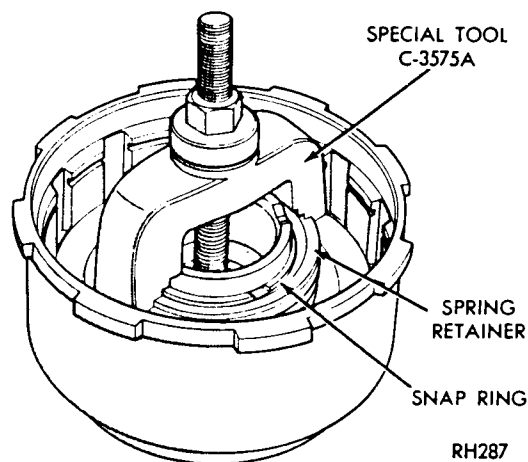

Fig. 19—Front Clutch Spring Retainer Snap Ring (A-904T and A-999)
(1) Remove large waved snap ring that secures pressure plate in the clutch piston retainer. Lift pressure plate and clutch plates out of the retainer.
(2) Install compressor, Tool C-3575-A, over piston spring retainer (Fig. 19). Compress spring and remove snap ring, then slowly release tool until spring retainer is free of the hub. Remove tool, retainer, and spring.
(3) Invert clutch retainer assembly and bump it on a wooden block to remove the piston. Remove seals from the piston and clutch retainer hub.
(3) Place spring on piston hub and position spring retainer and snap ring on the spring. Compress spring with Tool C-3575-A (Fig. 19), and seat snap ring in hub groove. Remove compressor tool.
(4) Lubricate all clutch plates, install one steel plate followed by a lined plate (disc) until the number given in specifications is installed. Install pressure plate and snap ring. Make sure snap ring is properly seated.